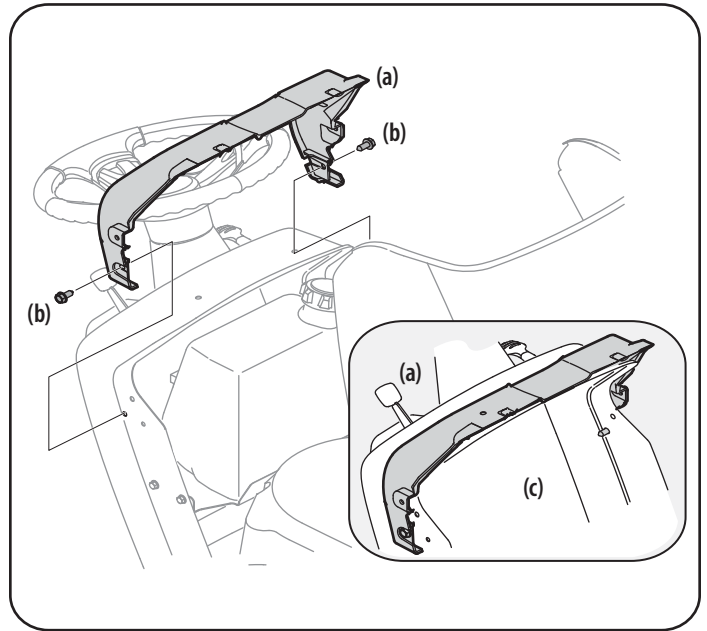

Figure 8
1. If the dash shroud (a) was shipped loose, the hardware for attaching the dash shroud (a) is shipped installed in the dash shroud (a). Remove the two bolts (b) from the dash shroud (a). See Figure 8.
2. Mount the dash shroud (a) and align the mounting holes. See Figure 8.
3. Secure the dash shroud (a) to the dash (c) with the bolts (b) removed in Step 1. See Figure 8.